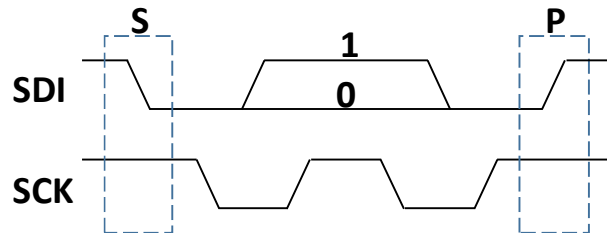

Figure 7. I2C bus protocol definitions
Figure 7 on next page shows the start (S) and stop (P) bits and a data bit. Data must be held stable at
Each serial bus operation, like write, starts with the start (S) bit (see Figure 7). After start (S) the MAS6505 device address with write bit (AW_{Table}) is sent followed by an Acknowledge (A). Next the target register address is sent and followed by an Acknowledge (A). Then the data is written one byte
at a time. Each byte is followed by an Acknowledge (A). The serial bus operation is ended with stop (P) command (see Figure 7). The MAS6505 starts configured measurement right after receiving the Configuration register (EE_{HEX}) bits.